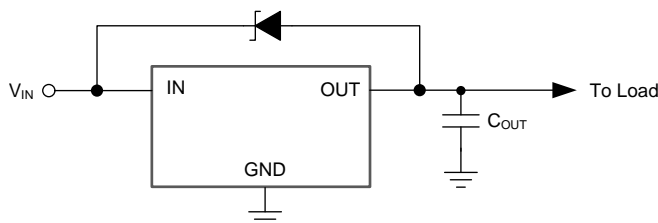

图 49. Zener Diode Placed from IN to OUT
- Place a zener diode from IN to OUT to provide a small positive dc bias on the output when the input is supplied to the device, as shown in 图 49.